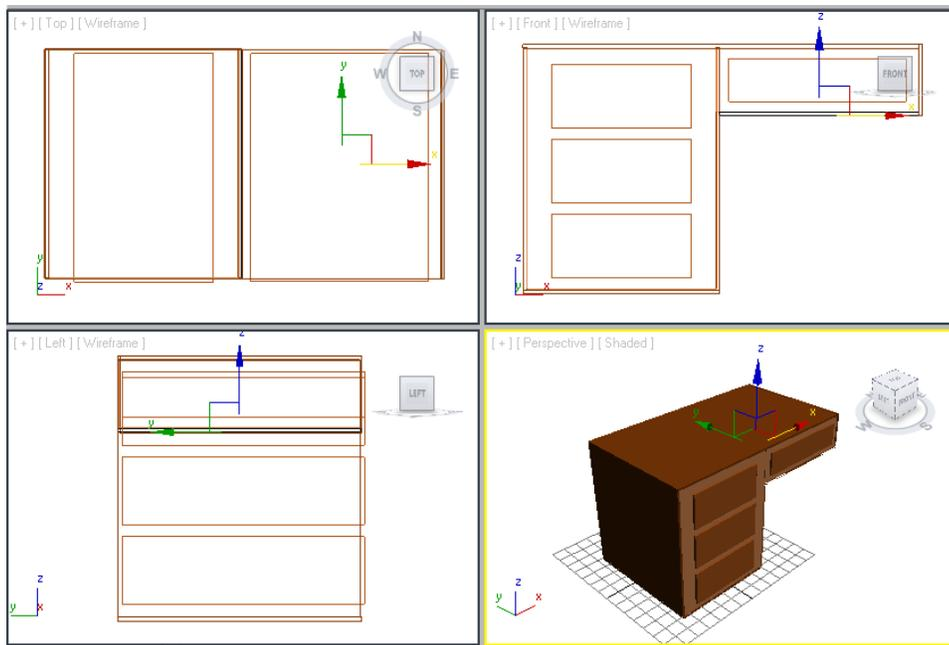

Figure 2-51 Alignment of the right lower face to the bottom of the right box of the table
13. Align the *right lower face* to the bottom of the *right box*, as shown in Figure 2-51.